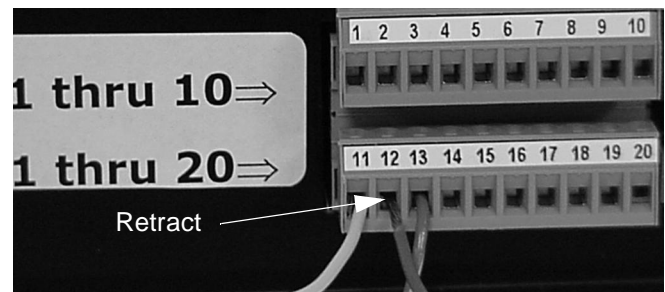

Figure 32. Retract Contact Wiring
3. Connect the retract to terminal #12 (see Figure 32).